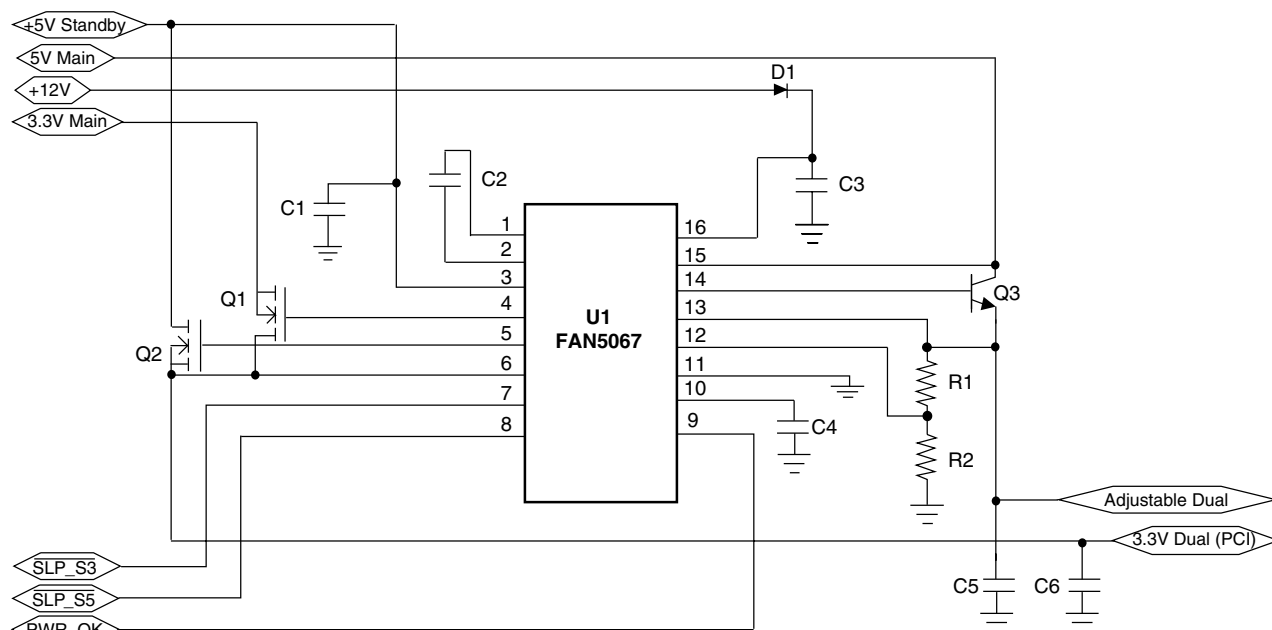

Figure 4. ACPI Selector
( $V_{+5VSTBY} = V_{+5VMAIN} = 5V$ ,  $V_{+3.3V} = 3.3V$ ,  $V_{+12V} = 12V$  and  $T_A = +25^{\circ}C$  using circuit in Figure 4, unless otherwise noted.)
3.3V dual can be generated by two MOSFETs, one from +3.3V main, the other from +5V standby, as shown in Figure 4. When main power is present, the MOSFET Q1 is turned on as a switch, so that input and output are connected together. When main power is absent, the MOSFET Q2 is controlled by the FAN5067 as a linear regulator, generating a regulated 3.3V from +5V standby. The MOSFET Q1 must be connected as shown in the figures, to avoid back-feed.
Adjustable dual is generated by one external NPN bipolar acting as a linear regulator from +5V main, and one linear regulator internal to the FAN5067 from +5V standby, as shown in Figure 4, and in the block diagram on the front page. When main power is present, the NPN Q3 linear regulates, and when main power is absent, the internal linear regulator is on. Q3 cannot be substituted with a MOSFET. If used in one direction, the MOSFET's body diode would permit back-feed; if used in the other direction, it would short-circuit the linear regulator action.
The output voltage of the Adjustable Dual is set with two resistors as shown in Figure 4, according to the equation.
In main power operation, the FAN5067 is run from the +12V main supply. This supply also provides voltage to the various MOSFET gates. However, during standby, this supply is off. To provide power to the chip and the appropriate gates, the FAN5067 incorporates a free-running charge pump. As shown in Figure 4, and in the block diagram on the front page, a capacitor attached between pins 1 and 2 of the FAN5067 acts as a charge pump with internal diodes. The charge pump output is internally diode or'ed with the 12V input. The 12V input must have a series diode to prevent back-feeding the charge pump to the +12V main when in standby. The 12V input line needs a bypass capacitor for high-frequency noise rejection. If desired, the system may be operated without the 12V or the diode; however, the bypass capacitor must still be present.
Instead of the bipolar transistor shown in Figure 4 for Q3, the linear pass element for the adjustable dual, a MOSFET and schottky diode can be used as shown in Figure 9.